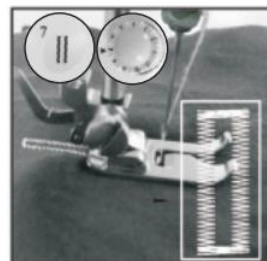

Fig.21
6. Choose stitch pattern #7, then turn on switch and sew till buttonhole is fully sewed (Fig.21).